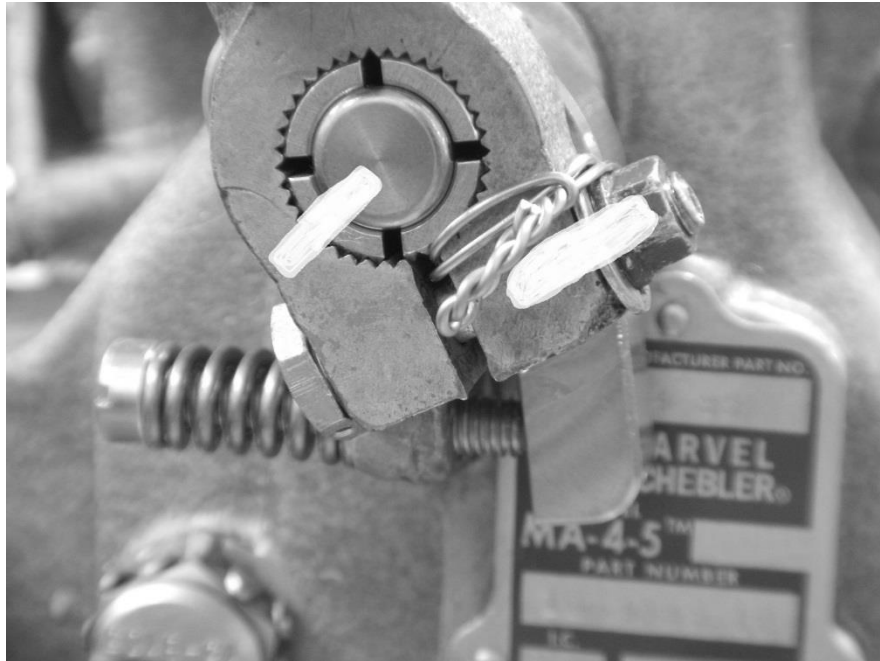

Figure 3-13f: Application of Anti-Sabotage Lacquer
- Apply Anti-Sabotage Lacquer (Torque-Seal or equivalent) between the Throttle Arm and the Serrated Shaft, as well as between the Self-Locking Nut and the Throttle Arm (areas shown in white in Figure 3-13f).